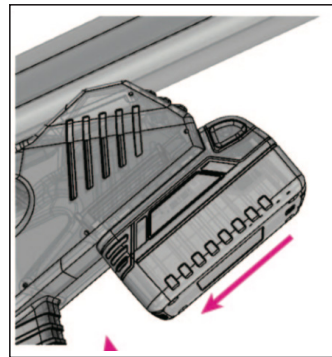

FIGURE 4
3. There is a point where the battery release latch/button provides some resistance. Push the battery past this point. You should hear a click, and this gap should be closed. [Figure 4]